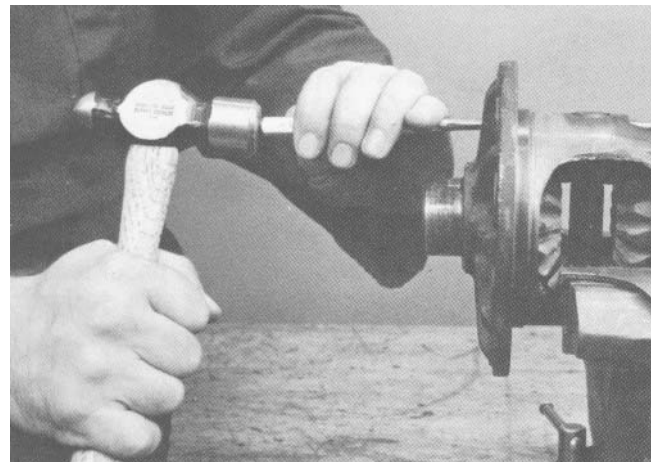

Figure 28
7. Put the case in a vise. Drive the lock pin out of the pinion shaft (Fig. 28). Use a small drift punch as shown.